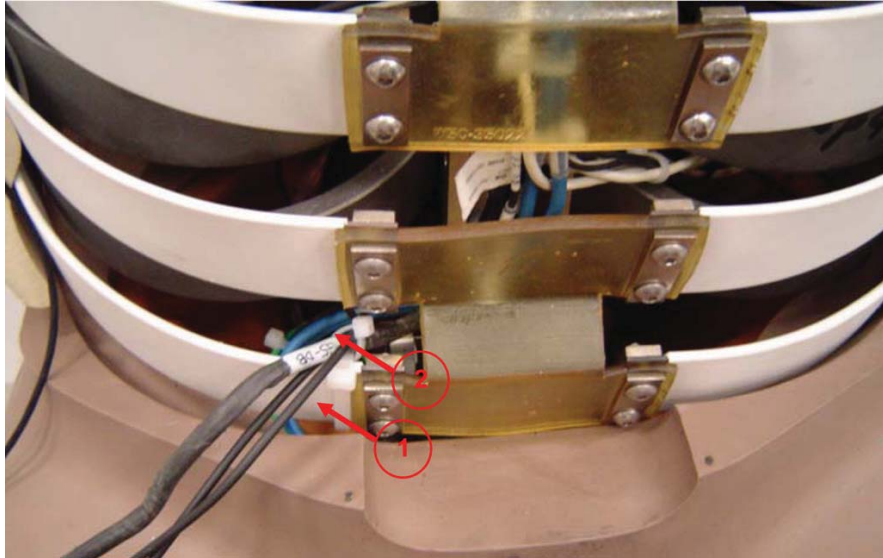
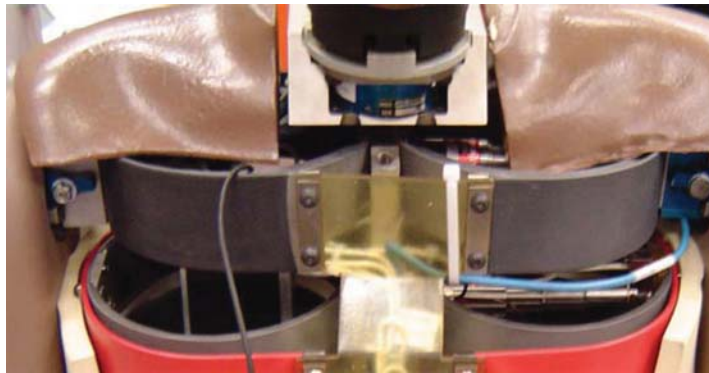

**Figure G.10 — Pelvis cable and dummy exit cable routing**
**Figure G.11 — Thorax cable routing**
- 9) Tie the pelvis cable and dummy exit cable as shown in Figure G.10. The overall thorax cable routing will be as illustrated in Figure G.11.